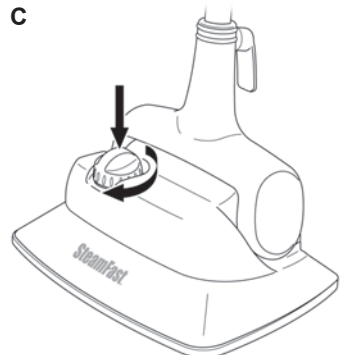

FIGURE 3
2. Carefully remove Boiler Cap by unscrewing it in a counter-clockwise direction (FIGURE 3-A).
3. Fill included Measuring Cup with 8.5 oz. (250 ml.) water, and pour into Boiler through Boiler Fill Hole (FIGURE 3-B).
5. Replace Boiler Cap by screwing it into Boiler Fill Hole in a clockwise direction until tight (FIGURE 3-C). Unit is now ready to begin steaming – refer to Page 10 for operating instructions.